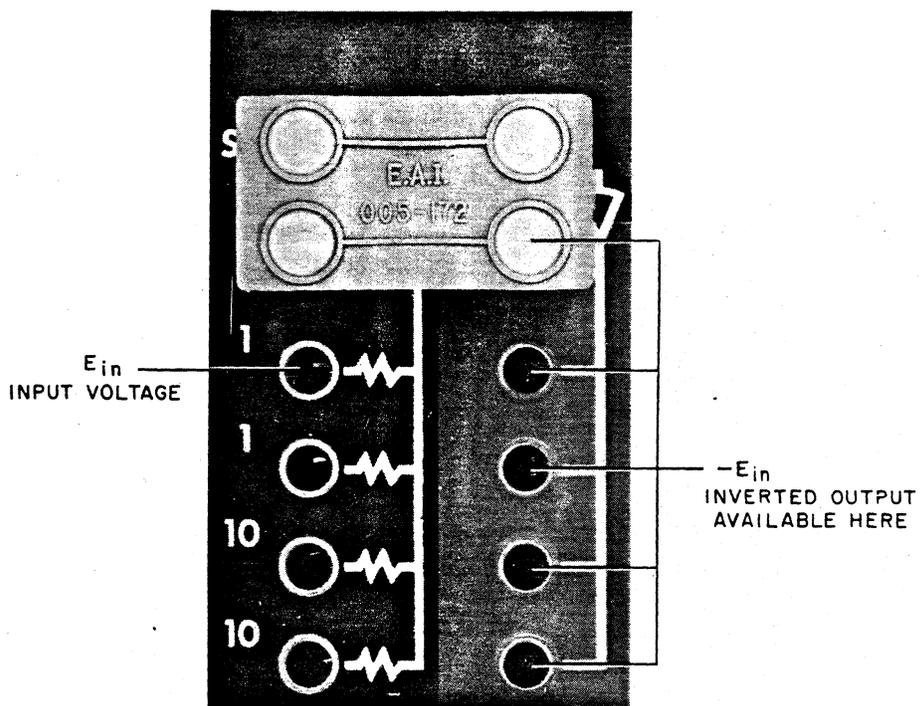

Figure 7. Model 6.712, Patched as an Inverter
The input (B) and output (O) of each amplifier are terminated on the patching block, together with one end of each of the five input/feedback resistors. The other end of each resistor is connected to a common bus terminated at the summing junction (SJ) terminal. To patch an amplifier as a standard inverter or summer, connect a four-prong bottle plug as shown in Figure 7. A single input applied to a 1 terminal (for example, +X) is inverted and appears as -X at any of the 0 terminals. If two inputs (for example +Y and +Z) are applied to 1 terminals, their sum appears inverted as $-(Y + Z)$ at any of the 0 terminals.
The operational amplifiers are rated for a maximum output of ± 10 volts. The amplifier patching arrangement should be such that the output voltage does not exceed this limit. (The amplifiers are capable of producing outputs up to ± 13 volts, depending on load, in order to allow for minor scaling discrepancies.) It is important to note that all amplifiers must be provided with feedback even if they are not being used in a problem. This is most easily accomplished by inserting a four-prong bottle plug as shown in Figure 7. When the amplifier is used in conjunction with an integrator network or one of the non-linear components, its patching requirements are discussed in the chapter pertaining to these units.